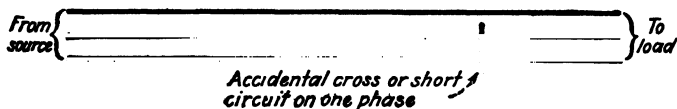

FIG. 20-2. Three-phase line showing cross or short circuit across two of the line conductors.
**Cross or Short Circuit.** A line is said to have a “cross” or to be short-circuited when two or more of the conductors of the line come in contact with each other. A simple cross or short circuit is shown in Fig. 20-2. It is evident that when two or more of the line conductors become crossed the resulting short circuit will cause heavy currents to flow in the line. These currents will be so large that they will cause the overload relays on circuit breakers and oil switches to trip, thereby disconnecting the